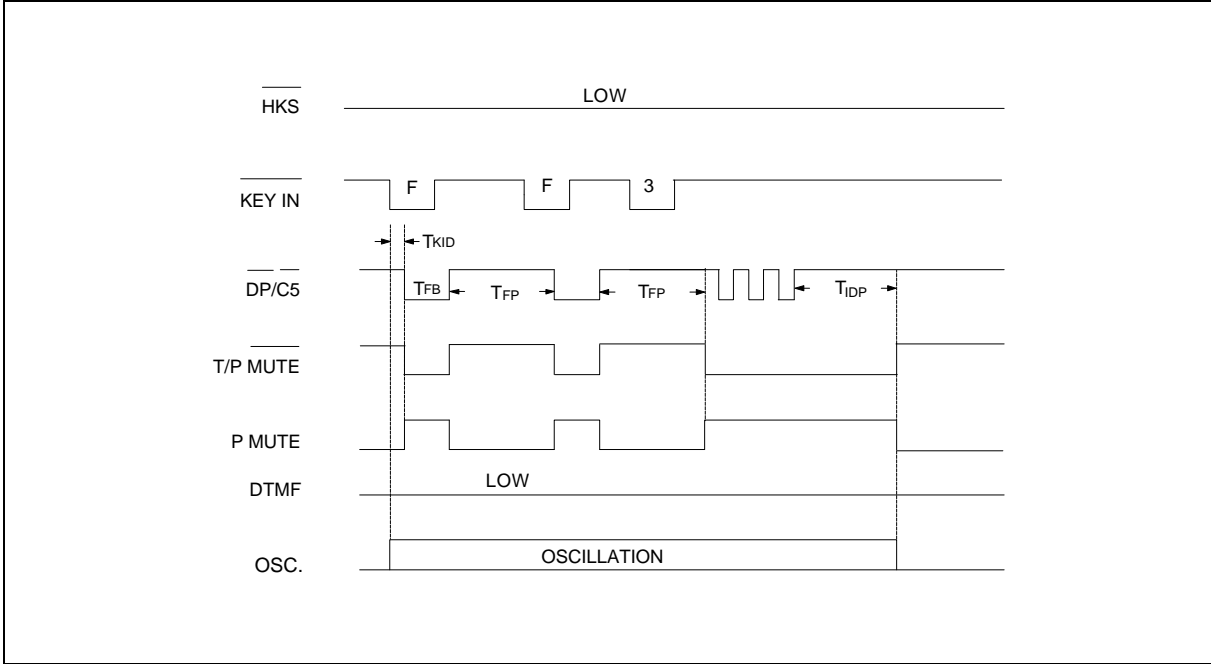

Figure 5. Flash Operation Timing Diagram
6. The flash pause time is 800 mS, so there is a pause of 800 mS between the flash and the next digit dialed (see Figure 5).
8. The flash function timing diagram is shown in Figure 5.